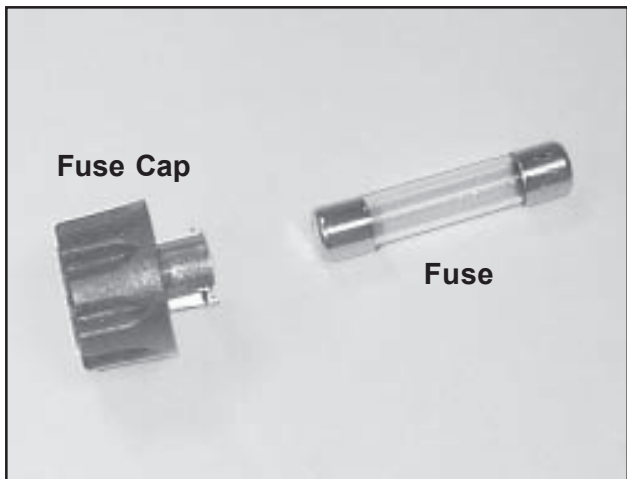

Figure 120. Fuse Cap and Fuse
3. Press in on the fuse cap, then twist about one-quarter turn counter-clockwise and pull out the fuse cap and fuse (Figure 120).
Inspect the thin, curly metal wire inside the transparent center section of the fuse (Figure 120). If the wire is intact, the fuse is OK. If the wire is burned or broken, the fuse is bad and must be replaced.